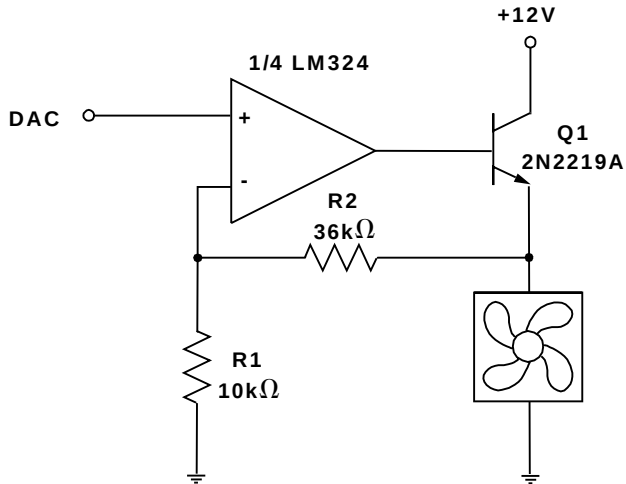

Figure 11a. Fan Drive Circuit with Op-Amp and Emitter—Follower
Suitable fan drive circuits are given in Figures 11a to 11e. When using any of these circuits, the following points should be noted:
1. All of these circuits will provide an output range from zero to almost $+12\text{V}$, apart from Figure 11a which loses the base-emitter voltage drop of Q1 due to the emitter-follower configuration.